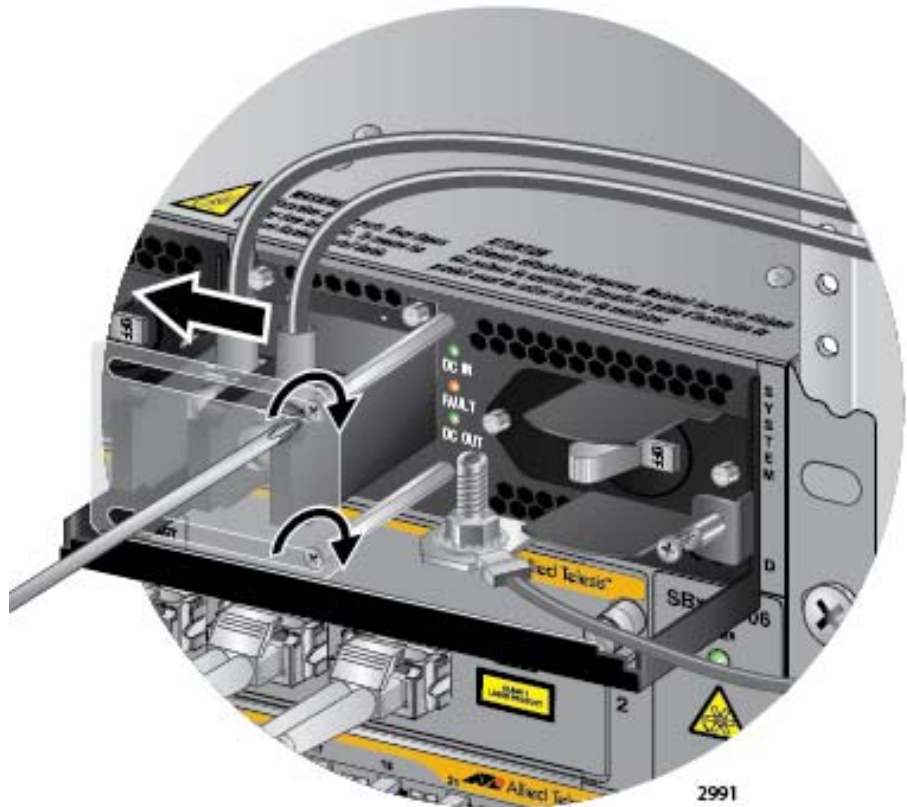

Figure 139. Closing the Plastic Cover over the Terminal Connectors
8. Slide the plastic cover to the left and lightly tighten the two screws with a #1 Phillips-head screwdriver to secure the cover. See Figure 139 on page 215. You might need to slightly lift the locking handle to access the bottom screw.
6. Slide the plastic cover to the left and lightly tighten the two screws with a #1 Phillips-head screwdriver to secure the cover. See Figure 139 on page 215. You might need to slightly lift the locking handle to access the bottom screw.